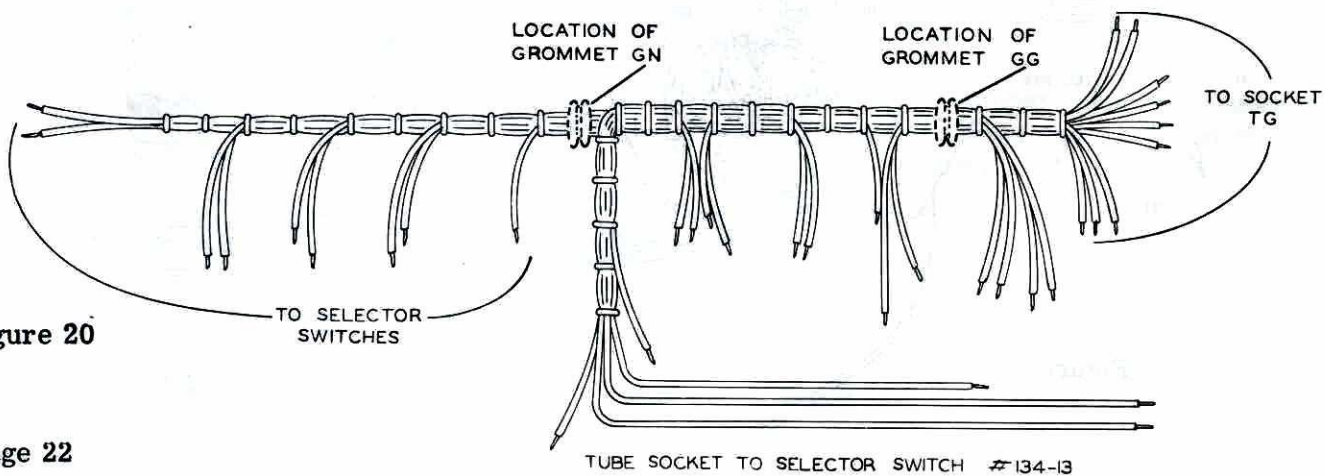

Figure 20
- () Identify the SELECTOR switch to tube socket cable harness (#134-13) and study carefully its position relative to the panel by reference to Figures 20 and 21. Identify the tube socket end of the cable by reference to Figure 20.